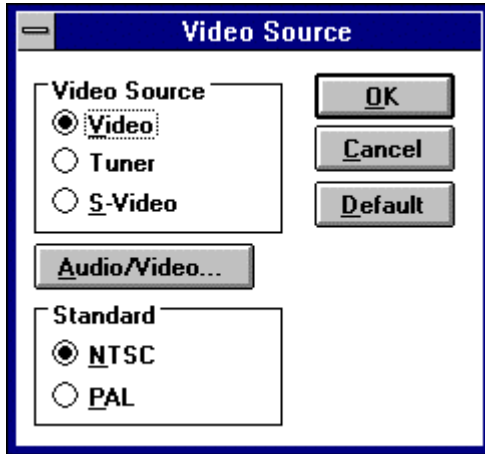

Figure 3-18.
4. **CLICK** on Video Source to set the source of the video signal (see Figure 3-18).